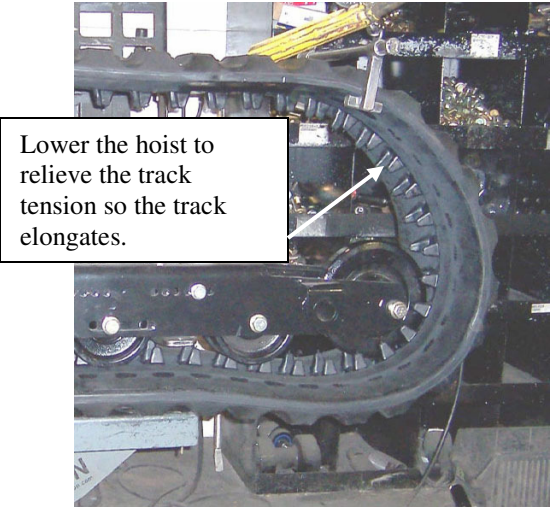

Fig. 2
- 7. Lower the front of the track so it elongates. Place a pry bar between the front idler and the inside of the track and pry outwards so the idler pops out of the guide teeth. **(Fig. 2)**